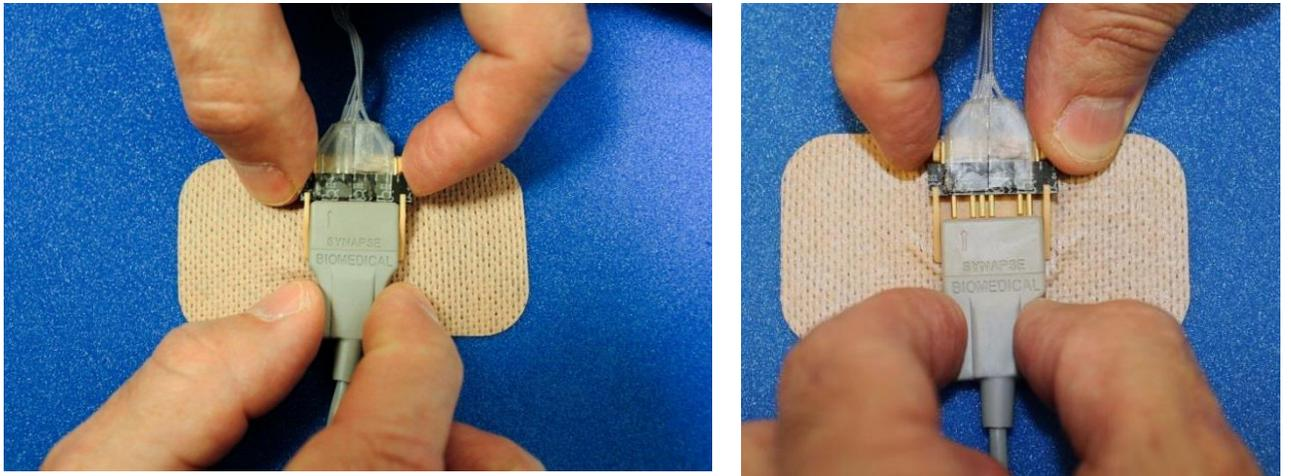

Figure 13. Disconnecting the patient cable from the electrode connector.
- Disconnect the patient cable from the electrode connector. To do this, hold the electrode connector between two fingers. Gently pull the patient cable out of the connector holder (Figure 13).